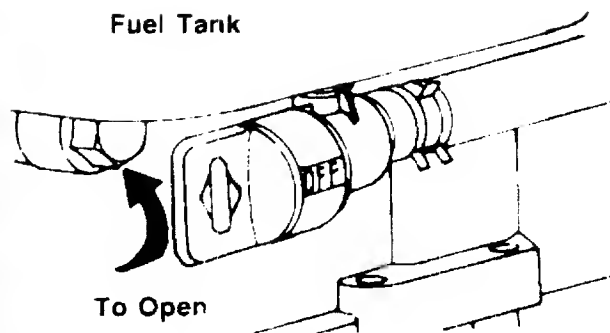
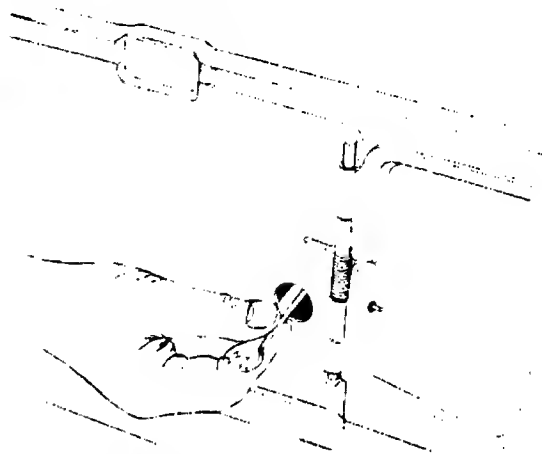

FIGURE 16.—Model 214 Only
FIGURE 17.—Model 214 Only
4. **Model 214 Only**—The fuel shut-off valve is located beneath the fuel tank. An access hole is provided in the catcher panel. The fuel shut-off valve should be in the open position. See figure 16. Open fuel shut-off valve using a wrench if it is closed. See figure 17.